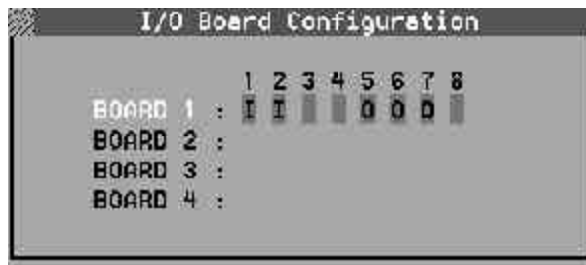

Figure 23: Example of T3000 I/O port configuration.
- ✓ Each of the eight port can take the value of “I” (Input card), “O” (Output card), or “ ” (no I/O card). From the example in section 1.1.3, Figure 23 displays the resulting I/O configuration.